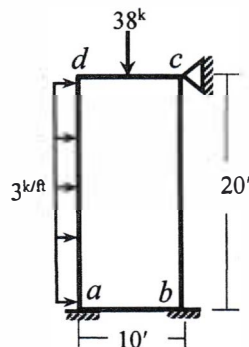

Fig.2
- Use stiffness method (neglect axial deformations) to calculate rotations of joints *c* and *d* of the frame *abcd* loaded as shown in **Fig.2**